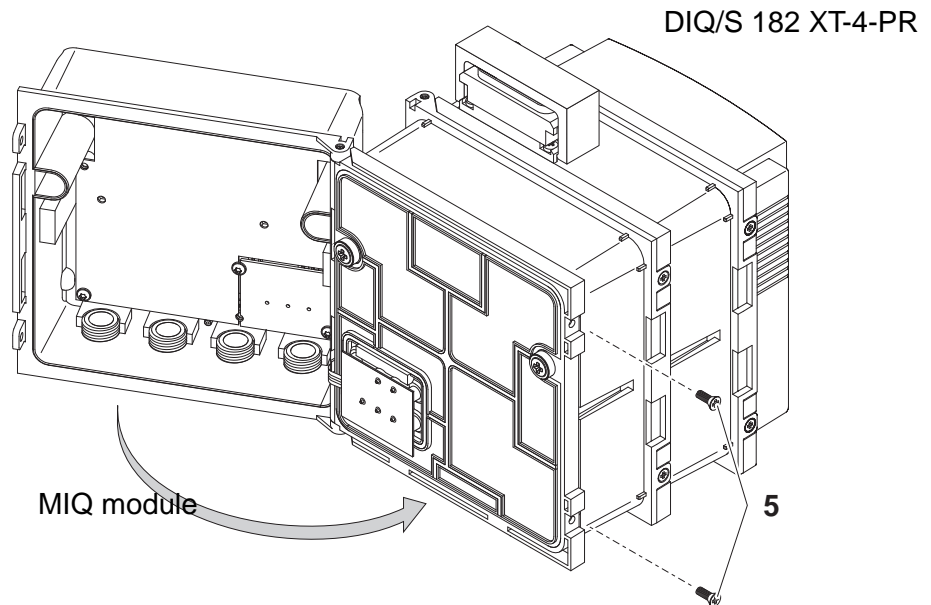

Fig. 3-11 Closing the enclosure (variant 2)
| 8 | Close the MIQ module and fix it with the two countersunk screws (pos. 5 in Fig. 3-11).  |